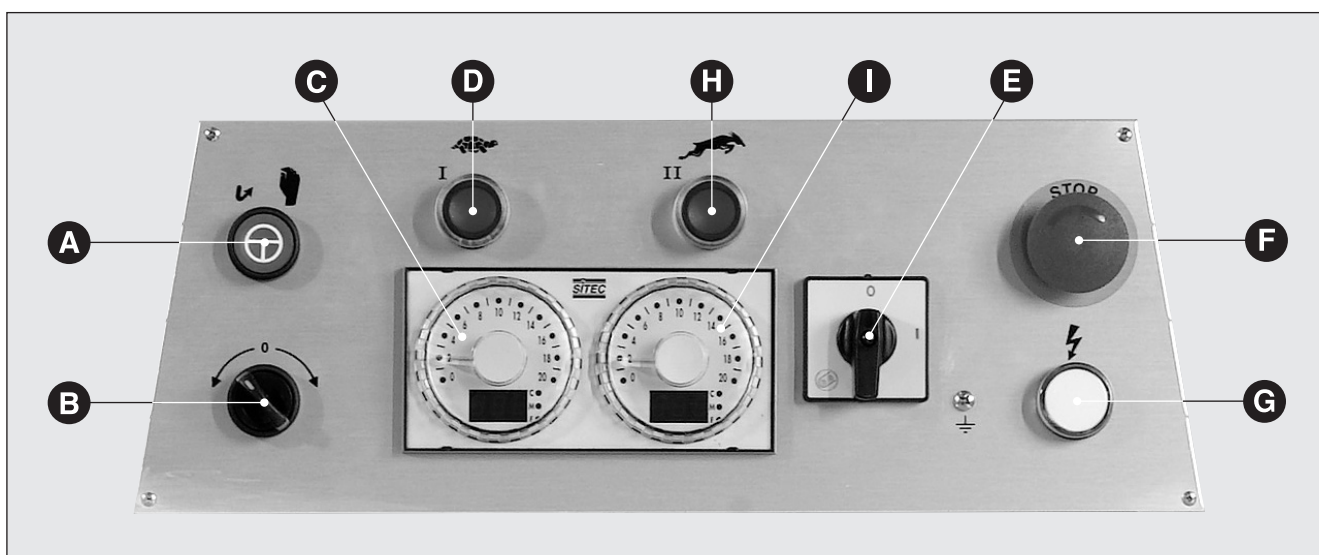

Fig. 1
3.1 LOADING AND STARTING (Fig. 1)